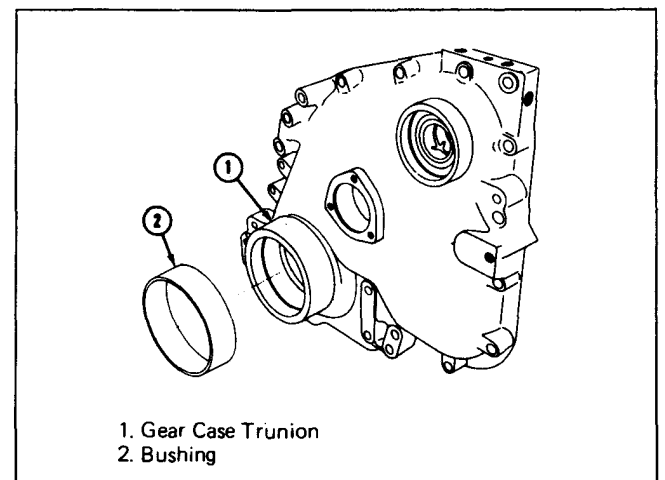

Fig. 1-17, (N10145). Gear case cover and trunnion bushing
1. Machine gear case trunnion (1, Fig. 1-17) to 4.747 to 4.750 inch [120.57 to 120.65 mm] outer diameter.
2. Press bushing (2) (Part No. 68226-1) over machined trunnion with chamfered side of bushing toward gear case.